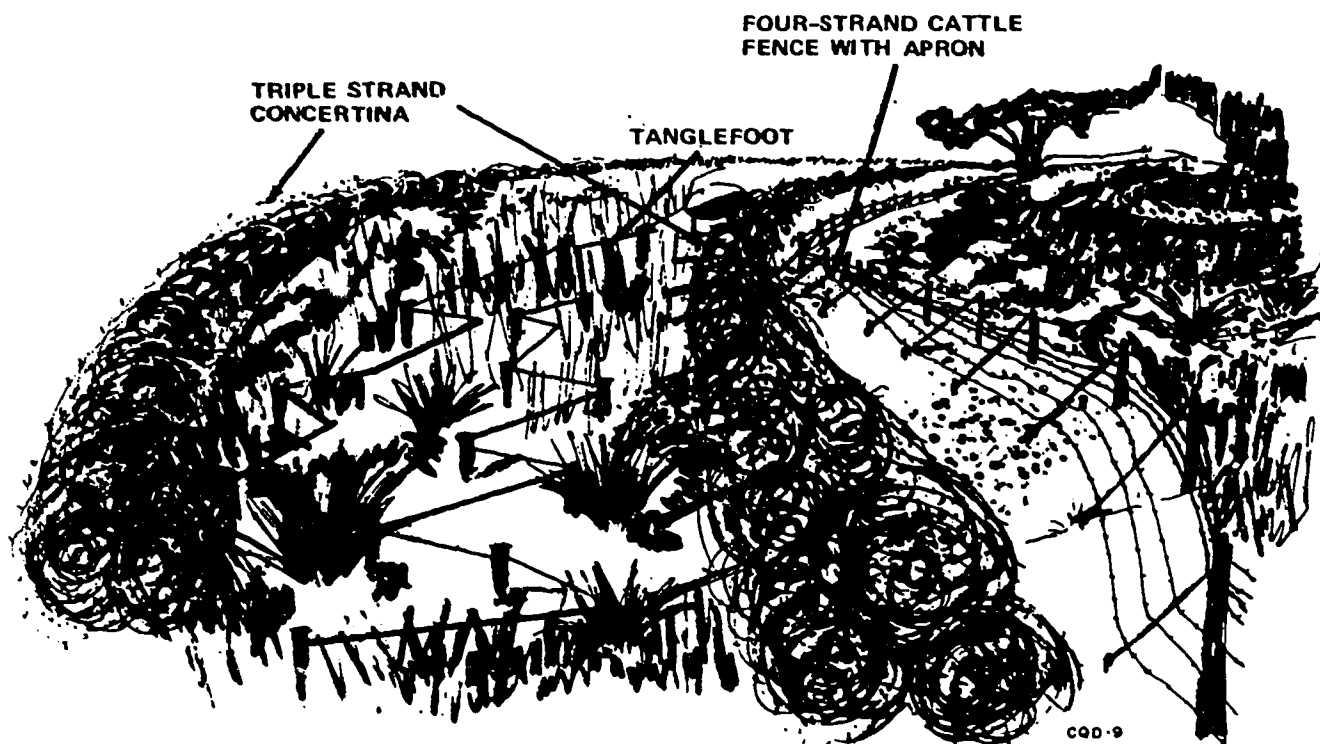

Figure 3-18. Entrapments.
**Types.** Now that you are familiar with the classifications of entanglements, let us look at the types of barriers and their uses (see fig. 3-18).